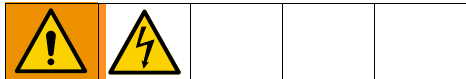

**FIG. 32**
6. Apply thread sealant to male threads of fittings. Connect air supply line to port 1 (FIG. 32).
7. Apply thread sealant to male threads of fitting. Connect line to the pump air inlet to port 2 (FIG. 32).